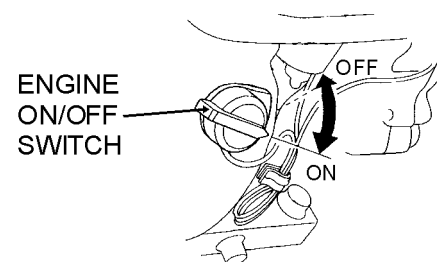

Figure 25. Engine ON/Off Switch (engine)
3. Turn the **engine ON/OFF switch** (Figure 25) to the **"OFF"** position.